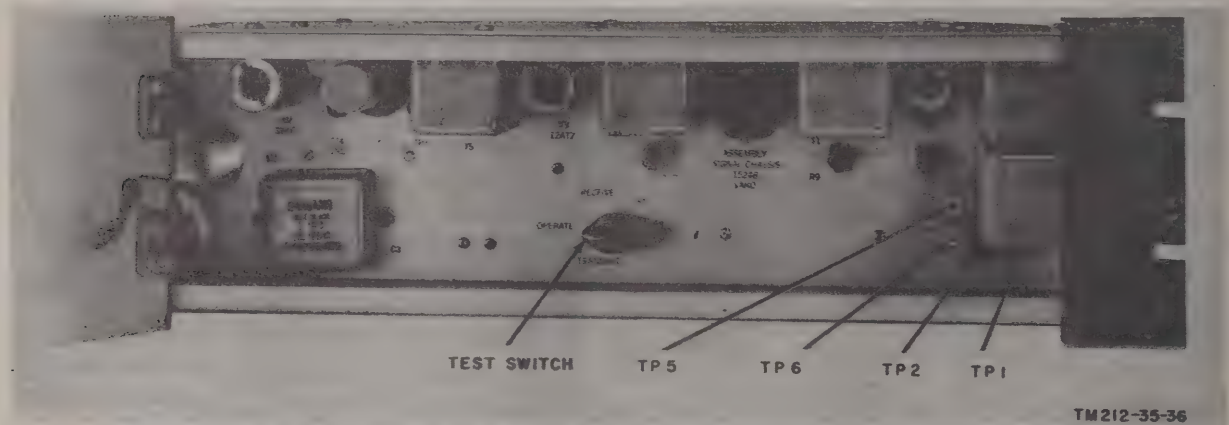
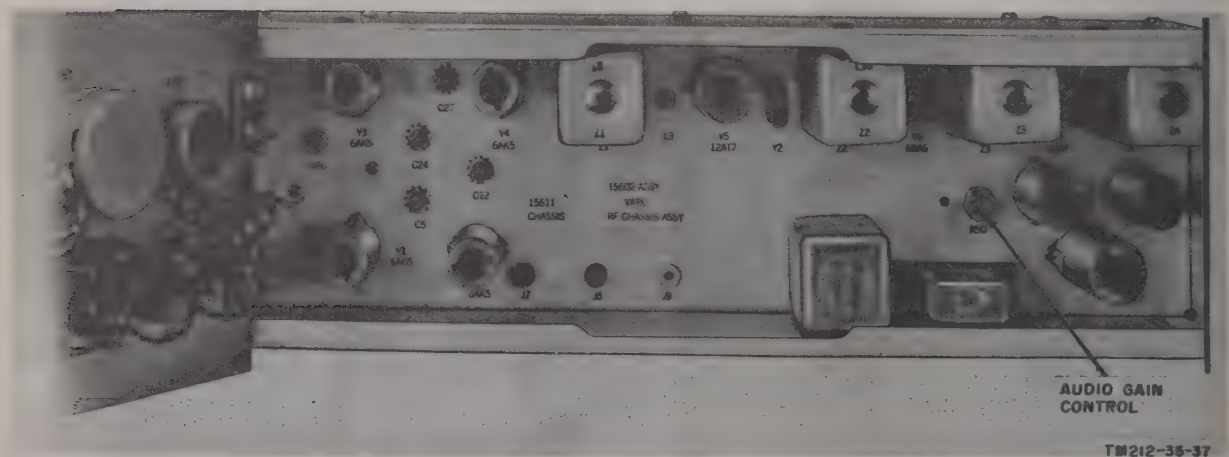

Figure 33. Telephone Signal Converter CV-542/TRC-47, internal controls.
Figure 34. Radio Receiver R-748(\*)/TRC-47, internal controls.
a. Open the front panel door of the converter. Connect Audio Oscillator TS-382E/U to terminals TP1 and TP2 (fig. 33).
a. Connect Electronic Voltmeter ME-30B/U to terminals TP5 and TP6 on the converter (fig. 33).
c. While switch S1 (fig. 33) of the remote converter is held in the TRANSMIT position, adjust audio gain control resistor R50 (fig. 34) on the local receiver. Adjust the control until a reading of .1 volt ac is obtained on Electronic Voltmeter ME-30B/U.
b. Place switch S1 in the TRANSMIT position. Connect a vacuum tube voltmeter (vtvm) across TP1 and TP2 on the converter (fig. 33). The vtvvm should indicate .1 volt ac.